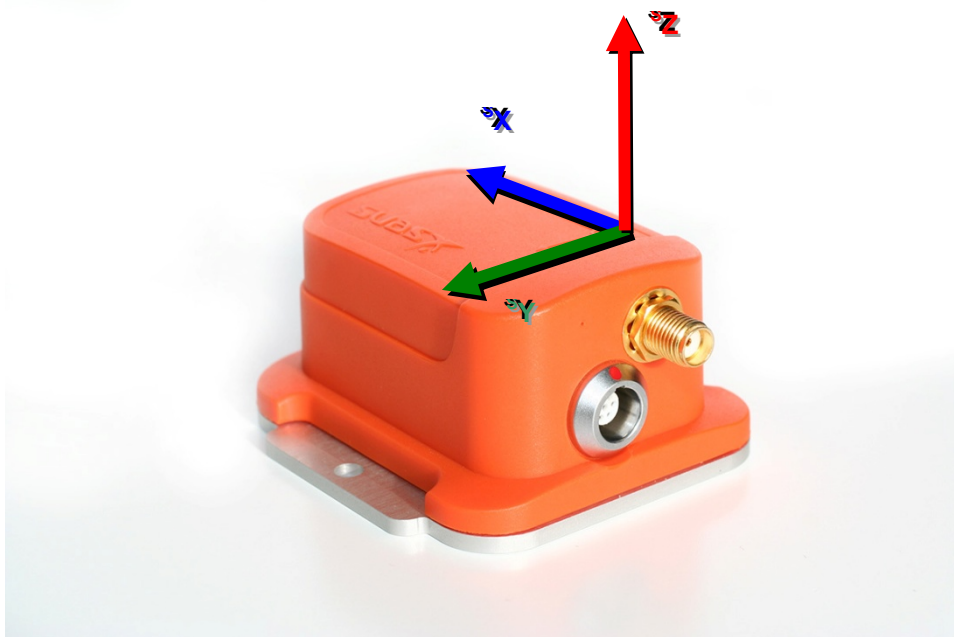

Figure 1 MTi-G with the default sensor-fixed co-ordinate system overlaid (S).
All calibrated vector sensor readings (accelerations, rate of turn, magnetic field) are in the right handed Cartesian co-ordinate system as defined in figure 1, corresponding to a North-West-Up (NWU) convention co-ordinate system. This co-ordinate system is body-fixed to the device and is defined as the sensor co-ordinate system (S). The 3D orientation output is discussed below in section 4.1.4.
The non-orthogonality between the axes of the MTi-G body-fixed co-ordinate system, S , is $<0.1^\circ$. This also means that the output of 3D linear acceleration, 3D rate of turn (gyro) and 3D magnetic field data all will have orthogonal XYZ readings within $<0.1^\circ$ as defined in figure 1.